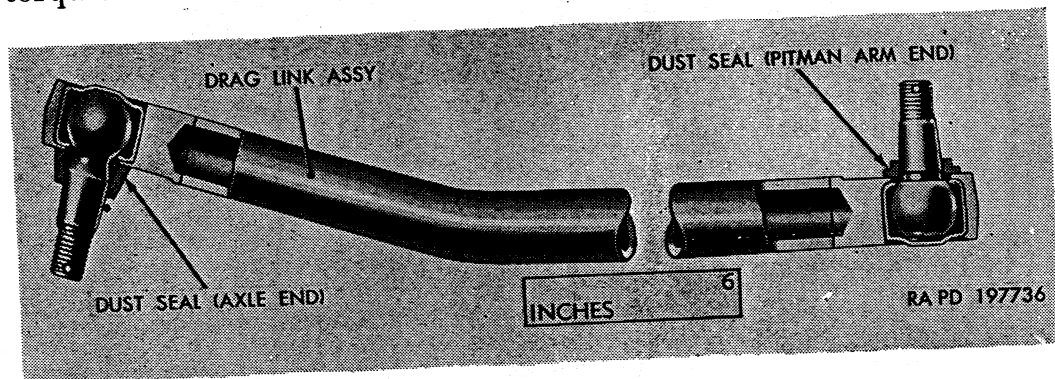

Figure 279. Steering drag link removed.
*a. General.* Tubular-type steering drag link connects pitman arm to steering arm on left steering knuckle of front axle with tapered ball studs and nuts. Ball studs are mounted in drag link ends in bearings which require no lubrication. Rubber dust seals (fig. 279) fit tightly around taper of each ball stud, and seal against drag link ends.